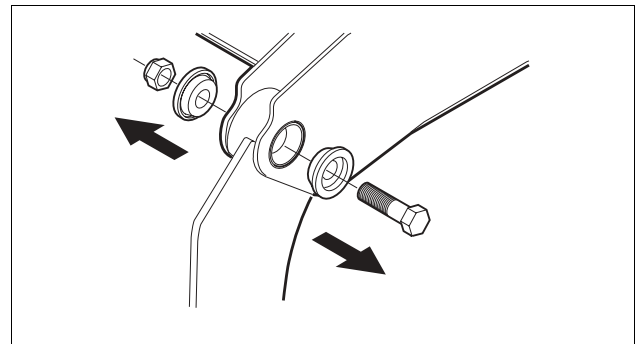

Fig. 43 Remove the nut, the screw and the washer
1. Remove the nut and the capscrew. *See Fig. 43.*
2. Remove the washers. *See Fig. 43.*
3. Assemble the pin-joint. *See Fig. 43.*